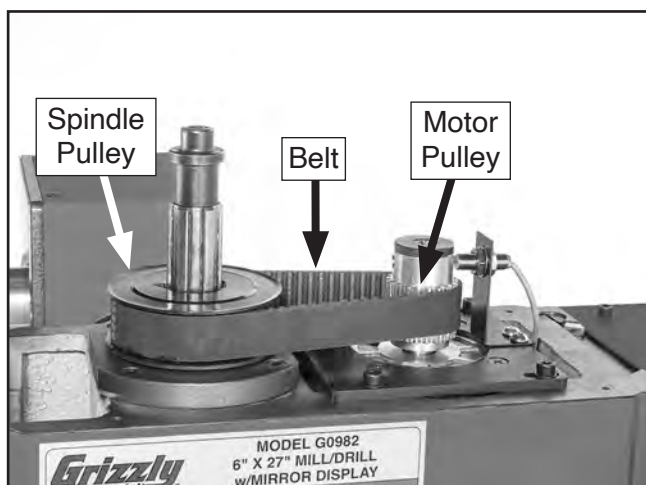
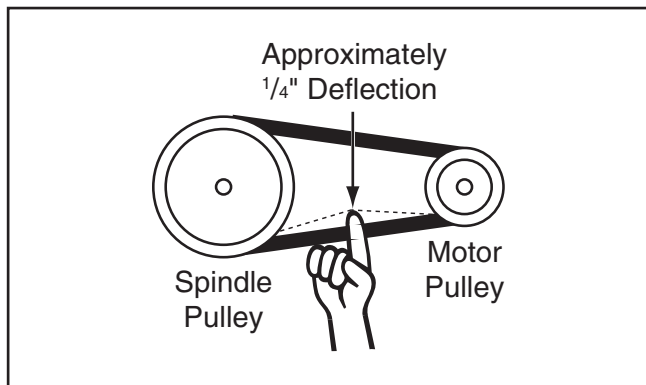

Figure 57. Location of belt and pulleys.
Figure 58. Correct belt deflection.
4. Check belt tension by applying moderate pressure on belt with your finger (see **Figure 57**). There should be approximately $\frac{1}{4}$ " of belt deflection when belt is pressed (see **Figure 58**).